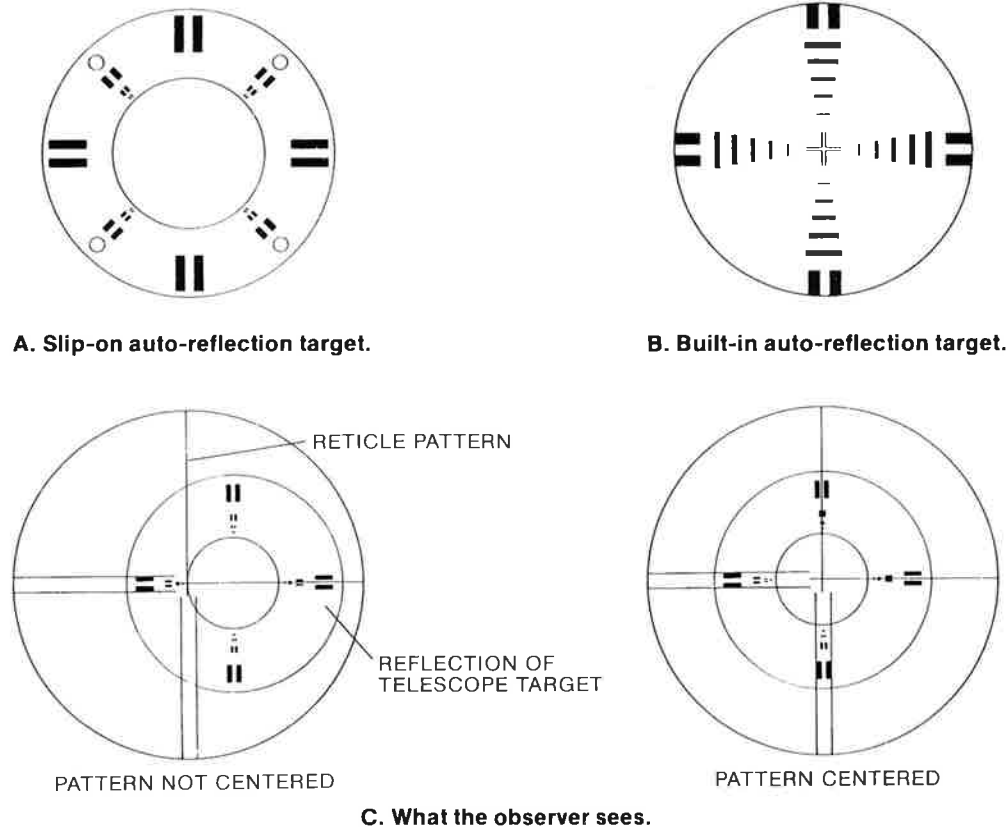

Figure A-3. Auto-Reflection
2. Focus the instrument and aim at the reflection of the auto-reflection target in the mirror. (See Figure A-3.)